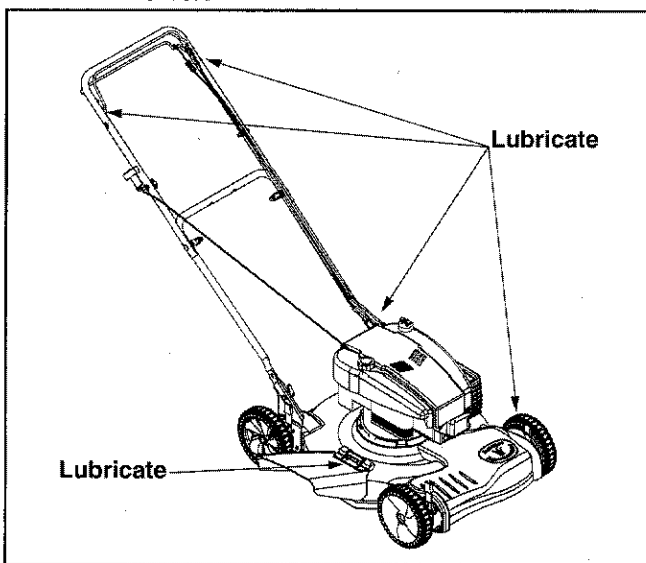

Figure 11
**Blade Control Handle and Drive Clutch Control:** Lubricate the pivot points on the blade control handle and the drive clutch control at least once a season with light oil. These handles must operate freely in both directions. See Figure 11.